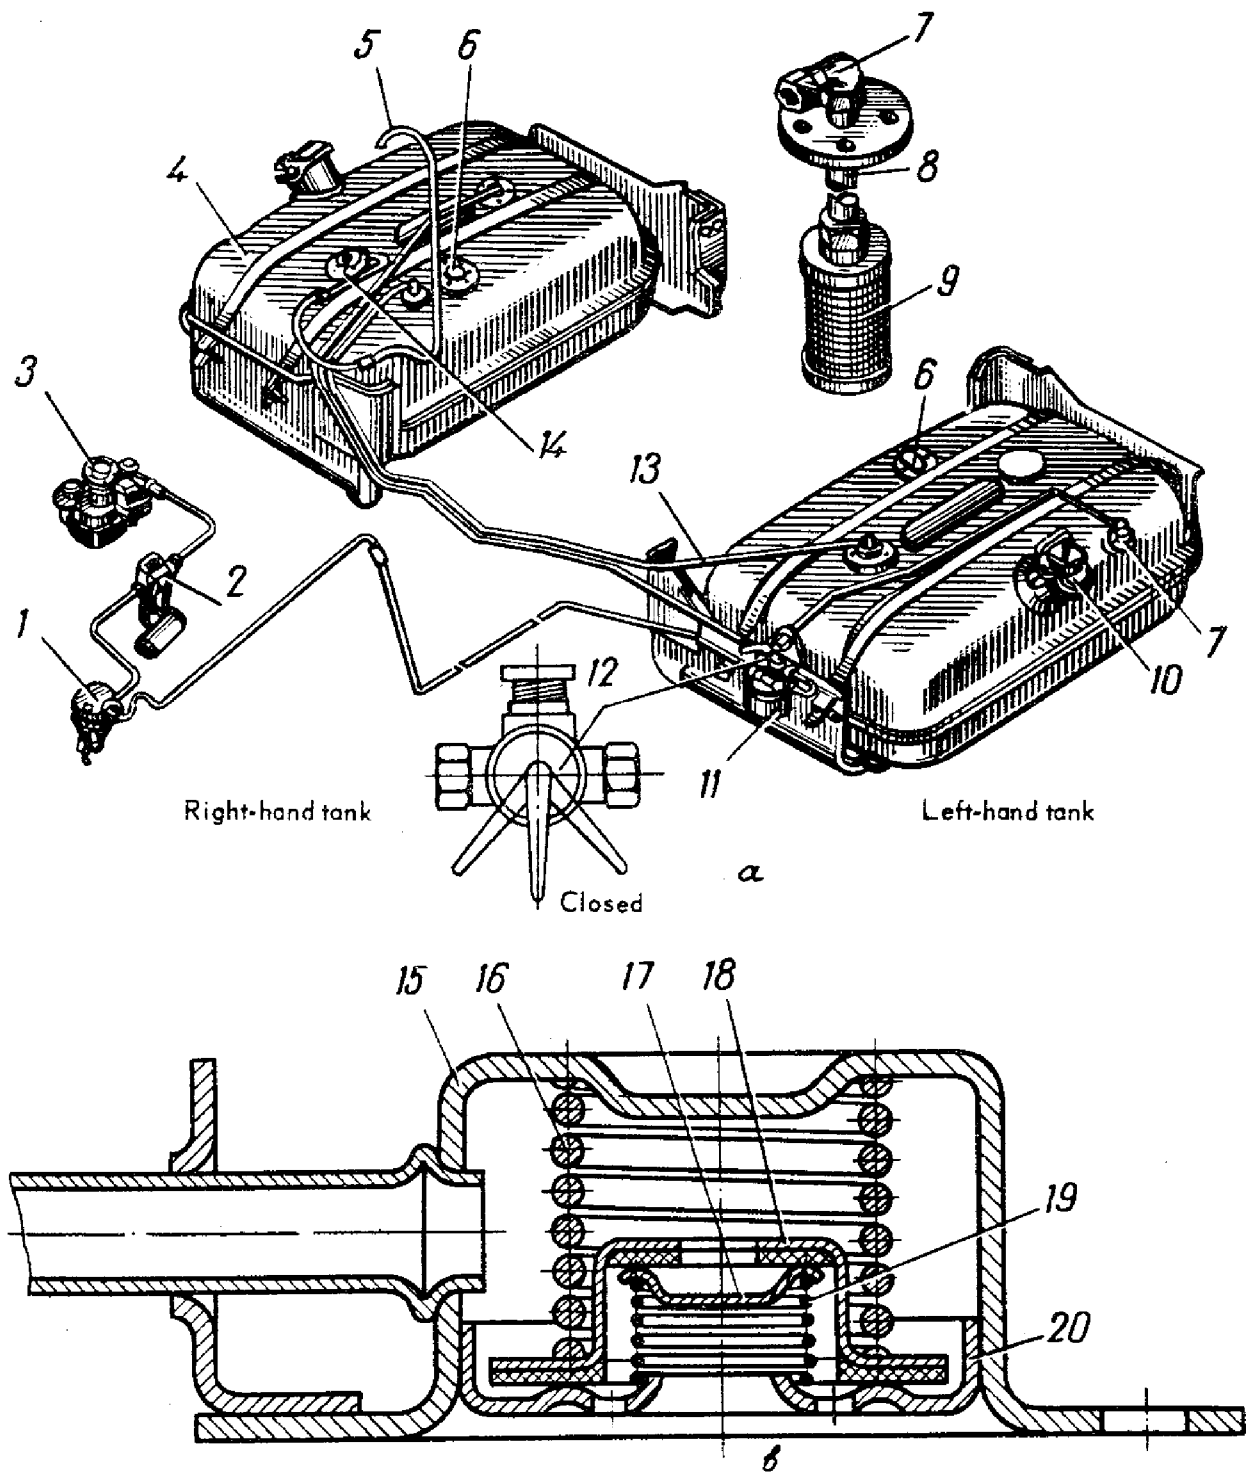

FIG.22. FUEL SYSTEM UNITS
3. On the 3MII-131 truck, check the functioning of the air valves (Fig.22) of the fuel tanks and wash them, if needed.
2. On the ЗММ-131 truck, wash the air valves on the fuel tanks and, using compressed air, blow through the valve pipes and tank interconnecting pipe 13 (Fig.22).